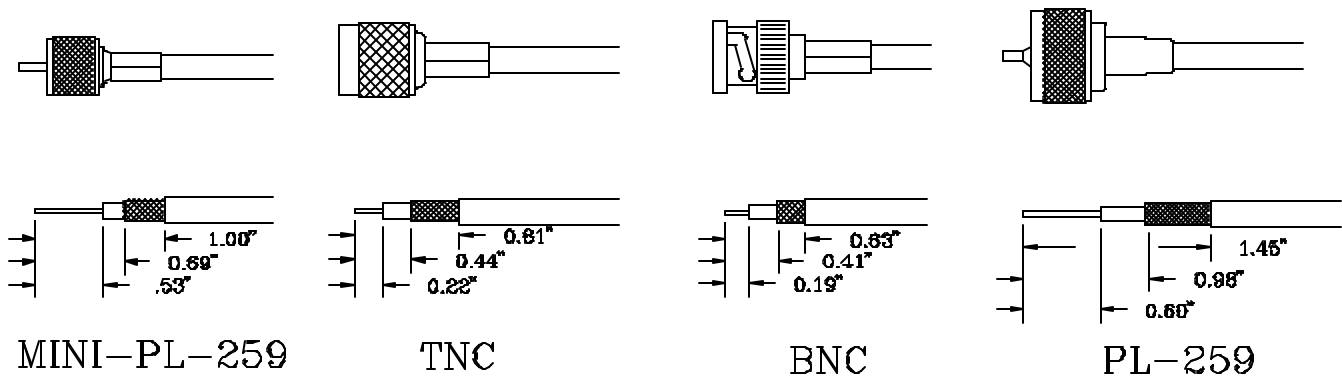

Figure 7 - Cable Stripping Dimensions
7. **Install Connectors:** Refer to Figure 7 - Cable Stripping Dimensions (Drawing is not to scale).